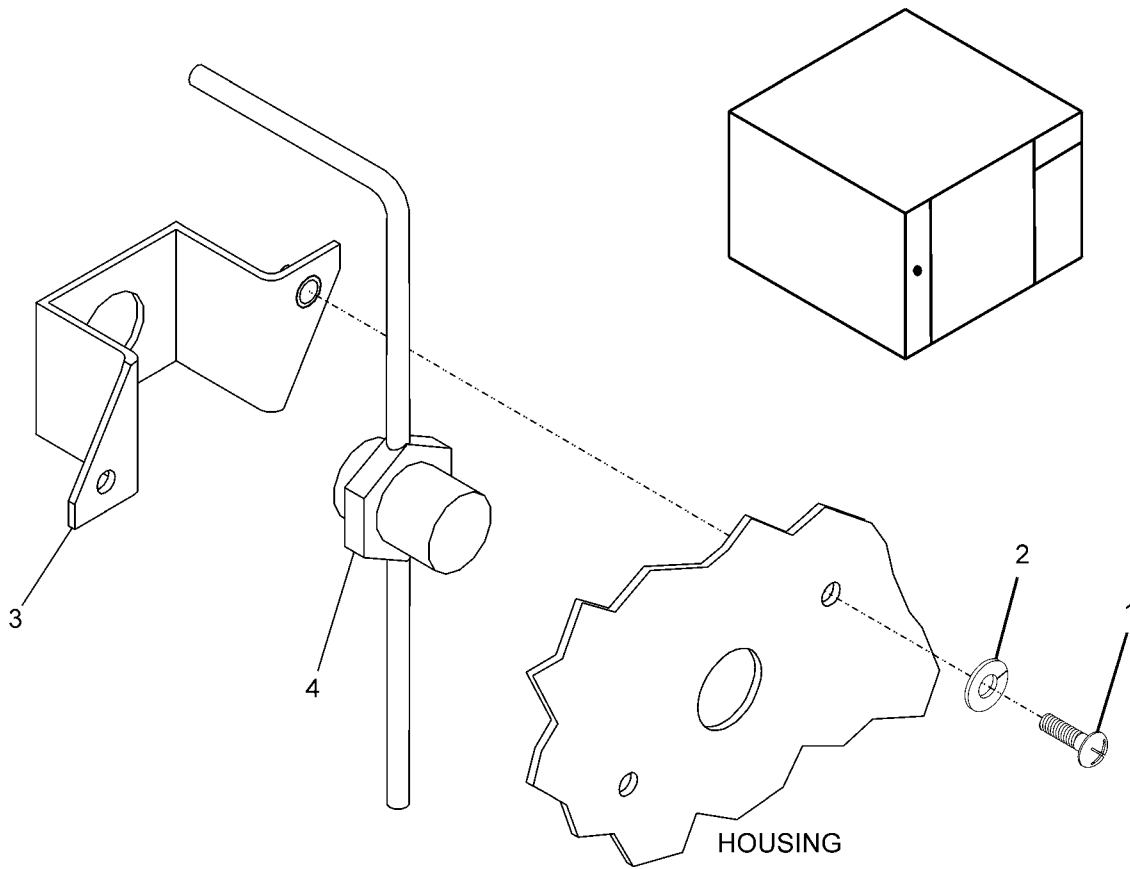

Figure 1. Liquid Sight Indicator
1. Remove two screws (1), washers (2) and mounting bracket (3) to release the liquid sight indicator (4) from rear of housing. See figure 1.
2. With a steady flow of dry nitrogen through refrigeration system, debraze liquid sight indicator (4) from condenser coil and attached tubing (see WP 0045 00 and WP 0046 00).
3. Remove liquid sight indicator (4) from unit housing.